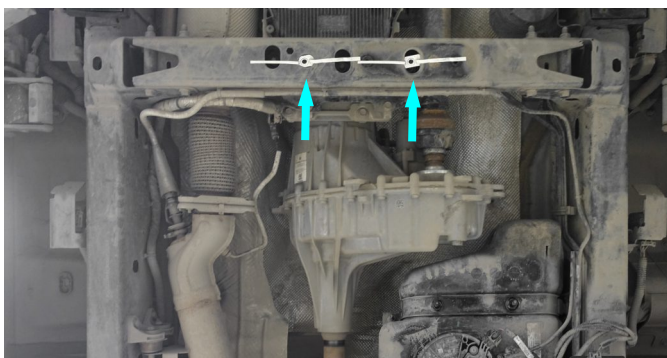

Fig. 5
5. Install insert nuts M10 (item A) as shown in fig.5.